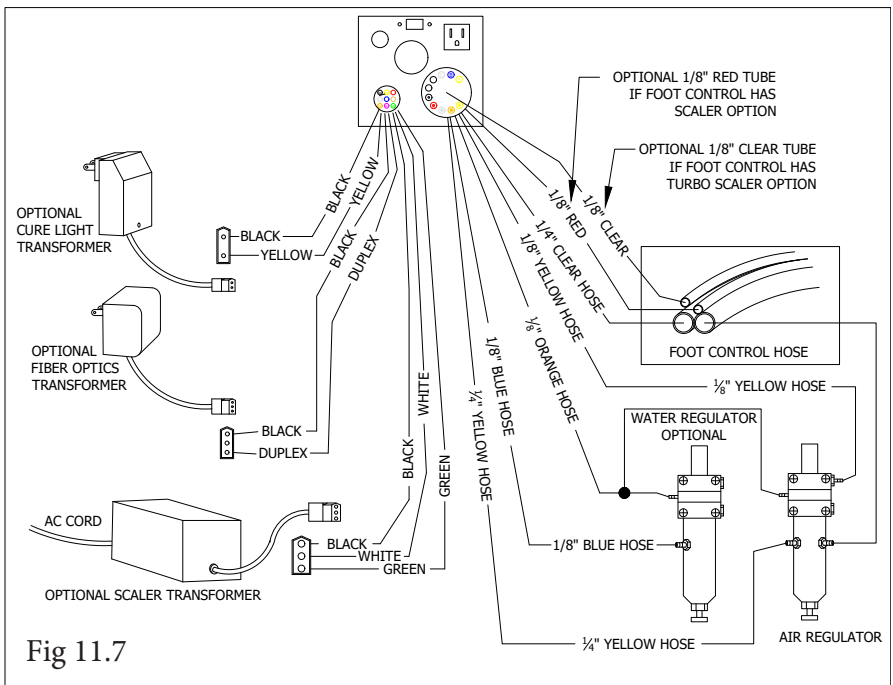

Fig 11.7
2. Please be sure to have your licensed contractor or installer follow Fig 11.7 for proper tubing and wiring connections. Wiring and tubing may differ depending on options purchased. Configuration shown is with standard options.
4. See page 28, Fig 11.7, for wiring and tubing diagram to make your final connections.